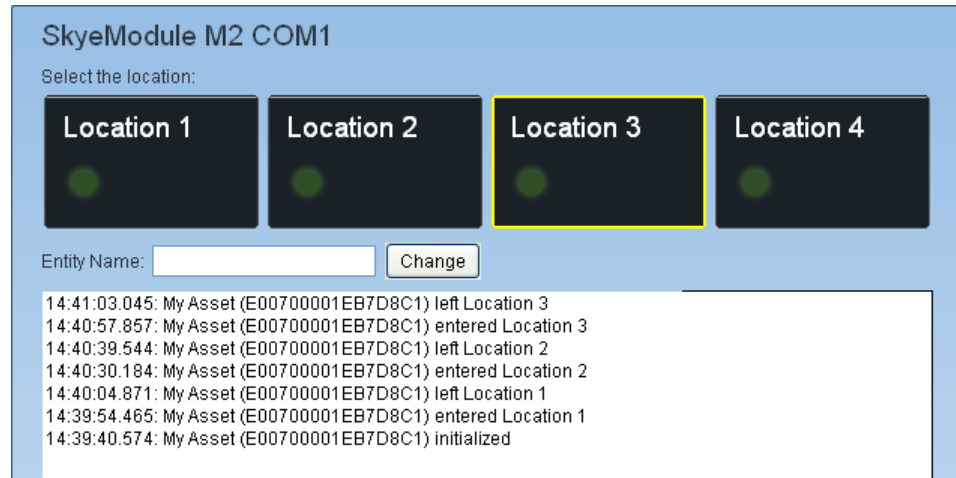

Figure 4-7 Initialized Tag Entering Location 3s
6. Put the tag back into the detection field. The tag's product name is displayed, and the data area shows that the tag has entered Location 2. The green light glows to show that Location 2 is active (Figure 4-7).